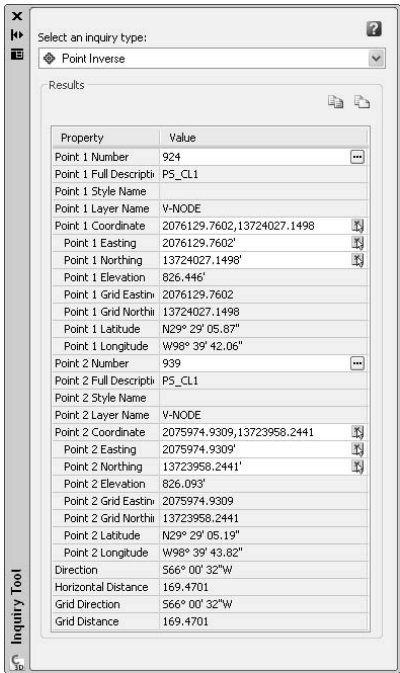

Figure 2.4
- 6. Click the ellipsis button on the Point 2 Number row, and select point 939 (it’s near the entrance road to the subdivision). The palette should look like Figure 2.4.